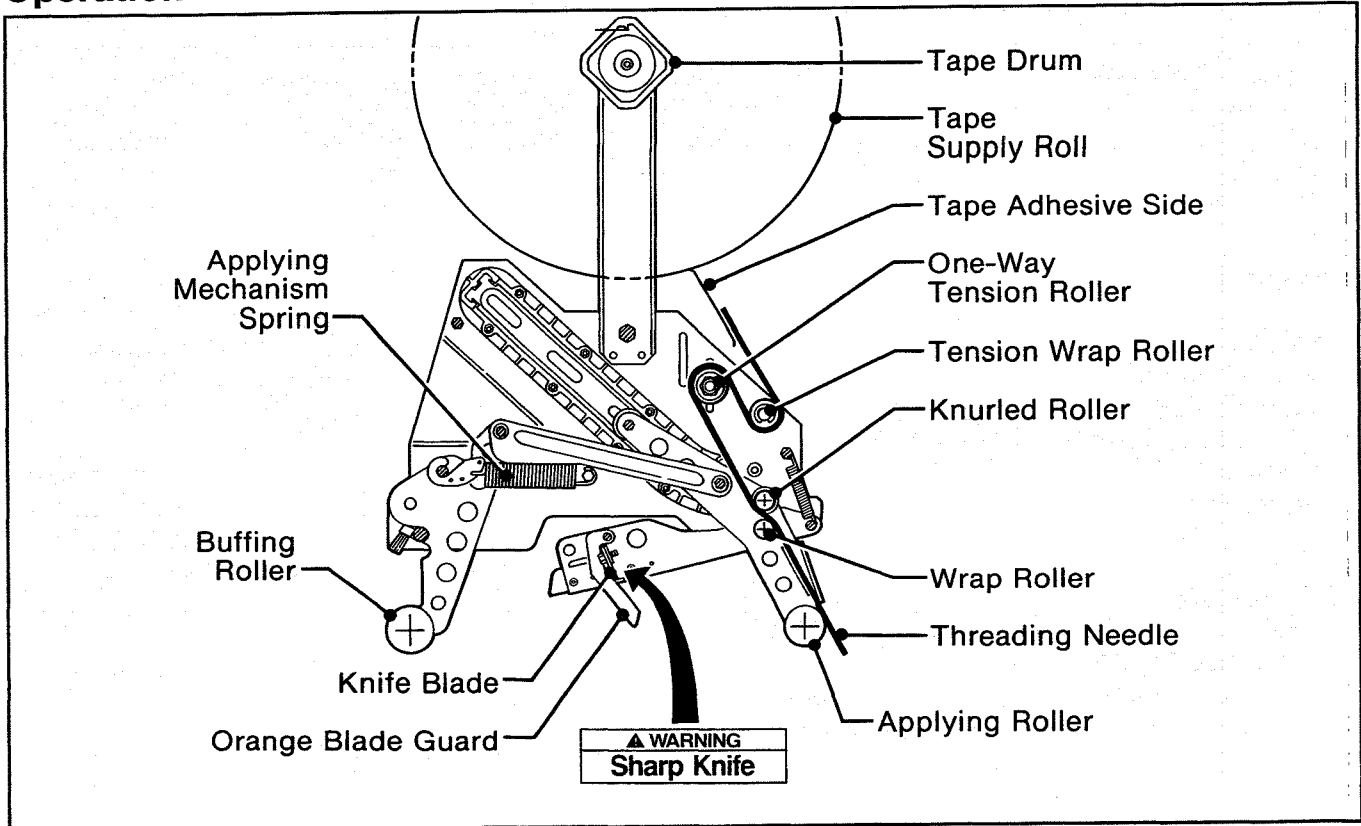

Figure 3-1 – Taping Head Components/Threading Diagram, Upper Head (Left Side View)
Before working with the taping heads or loading/threading tape, refer to Figures 3-1 and 3-2 to identify the knife blade location. **Keep hands out of these areas except as necessary to service the taping heads or to load/thread tape.**
**WARNING – Taping Heads utilize extremely sharp knife blades. The blades are located under the orange blade guard which has the "Warning – Sharp Knife" label. Before working with the taping heads or loading tape, refer to Figures 3-1 and 3-2 on page 6 and identify the blade location. Keep hands out of these areas except as necessary to service the taping heads.**
3. The taping heads use extremely sharp knife blades. Before working with the taping heads or attempting to load/thread tape, refer to Figures 3-1 and 3-2 and identify the blade location. Keep hands out of these areas except as necessary to service the taping heads.
The applying mechanism spring, shown in Figures 3-1 and 3-2, controls applying and buffing roller pressure on the box and returns the mechanism to the reset position. The spring pressure is pre-set, as shown in Figure 5-3A for normal operation, but is adjustable.